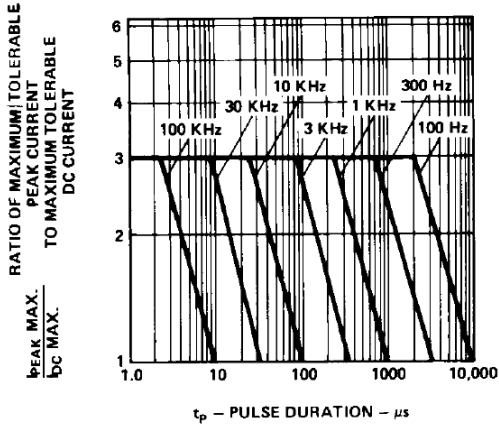

Figure 10. Maximum tolerable peak current vs. pulse duration. (I_{DC} MAX as per MAX ratings).
1. See Figure 10 (High Efficiency Red), 15 (Yellow), or 20 (Green) to establish pulsed operating conditions.